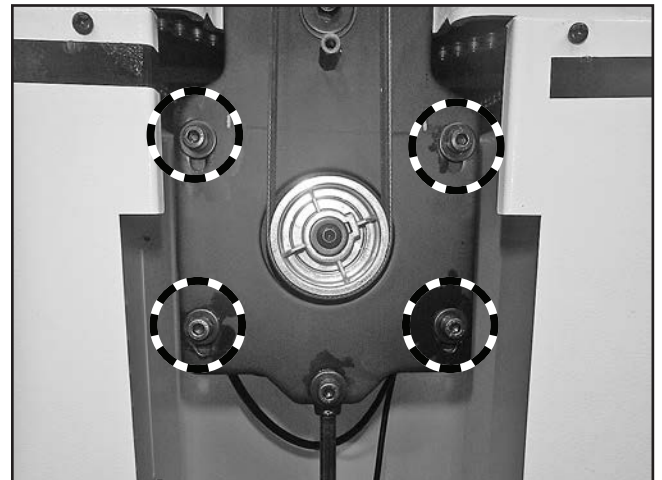

Figure 37. Location of motor mount cap screws.
4. To adjust V-belt tension, loosen (4) motor mount cap screws (see **Figure 37**), then raise or lower motor.